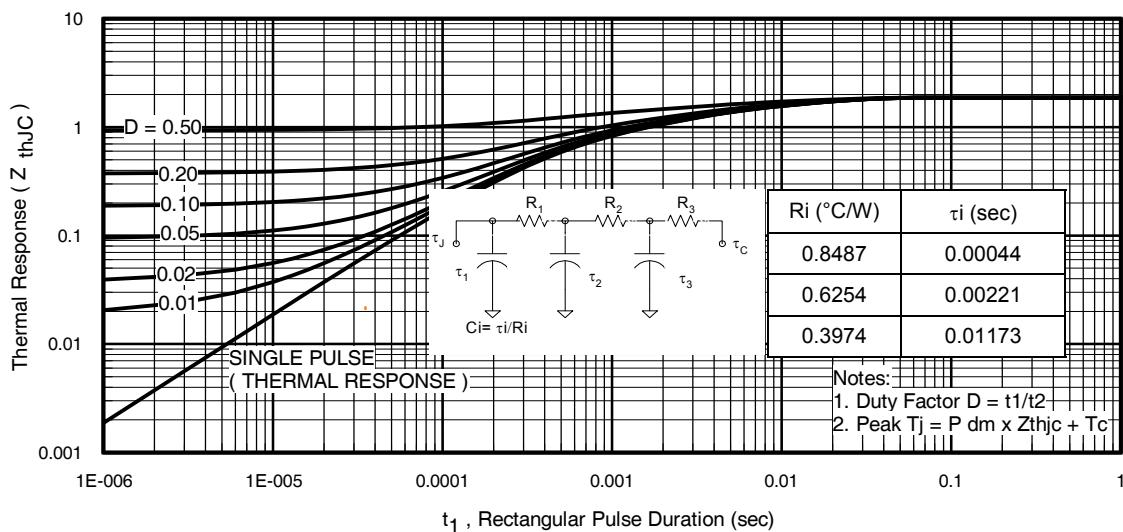
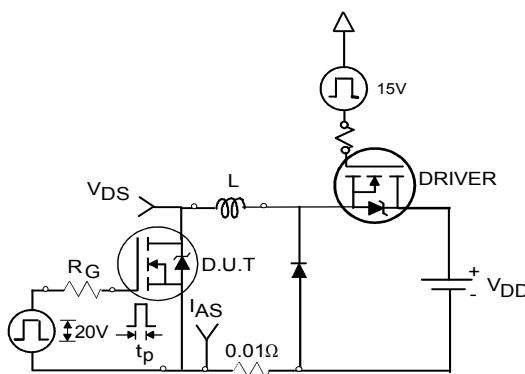

Fig 11. Maximum Effective Transient Thermal Impedance, Junction-to-Case
Fig 12a. Unclamped Inductive Test Circuit
- ① Repetitive rating; pulse width limited by max. junction temperature. (See fig.11)
- ② Limited by $T_{J\text{max}}$, starting $T_J = 25^\circ\text{C}, L = 0.18\text{mH}, R_G = 25\Omega, I_{AS} = 31\text{A}, V_{GS} = 10\text{V}$. Part not recommended for use above this value.
- ③ $I_{SD} \leq 31\text{A}, di/dt \leq 840\text{A}/\mu\text{s}, V_{DD} \leq V_{(\text{BR})\text{DSS}}, T_J \leq 175^\circ\text{C}$.
- ④ Pulse width $\leq 1.0\text{ms}$; duty cycle $\leq 2\%$.
- ⑤ $C_{oss \text{ eff.}}$ is a fixed capacitance that gives the same charging time as C_{oss} while V_{DS} is rising from 0 to 80% V_{DSS} .
- ⑥ Limited by $T_{J\text{max}}$, see Fig.12a, 12b, 15, 16 for typical repetitive avalanche performance.
- ⑦ This value determined from sample failure population 100% tested to this value in production.
- ⑧ This is applied to D2Pak, when mounted on 1" square PCB (FR-4 or G-10 Material). For recommended footprint and soldering techniques refer to application note #AN-994.
- ⑨ R_0 is rated at T_J of approximately 90°C .
3. Equation below based on circuit and waveforms shown in Figures 12a, 12b.